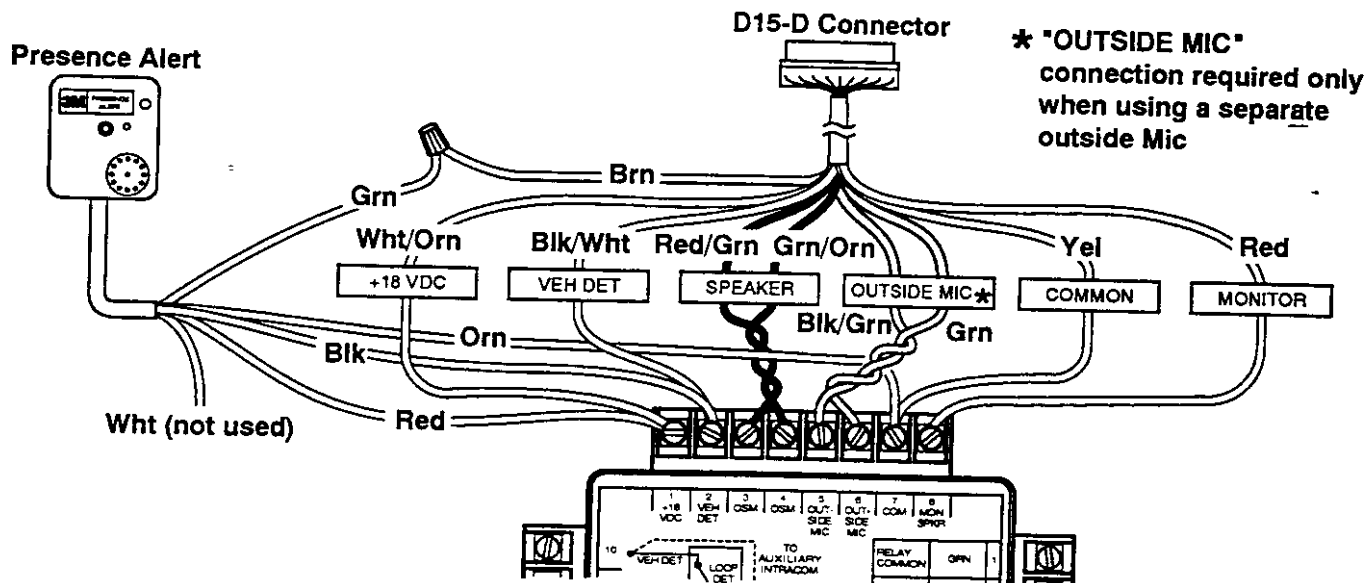
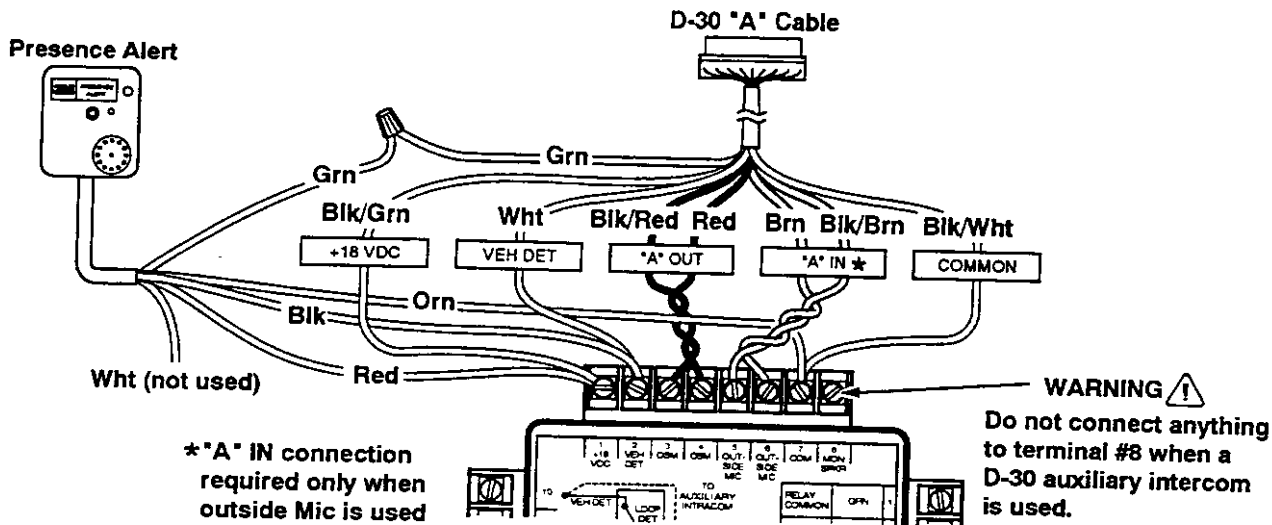

Figure 8. D-15D (M478 DA) Connections
Figure 10. D-30 Connections
| Figure 8. D-15D (M478 DA) Connections .....                      | 9  |
| Figure 10. D-30 Connections .....                                | 10 |
1. Connect the auxiliary intercom to the TO AUXILIARY INTERCOM terminals on the interconnect module as shown in Figure 8 through Figure 10 (depending on the model of intercom used).